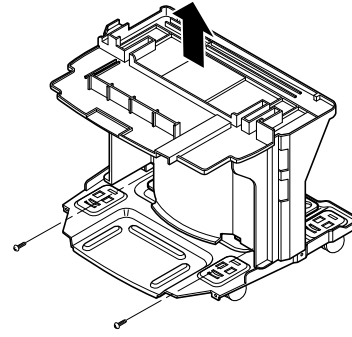

Figure 21
3. Pull the drain pan backward then take it up from the base pan. (See Figure 21)